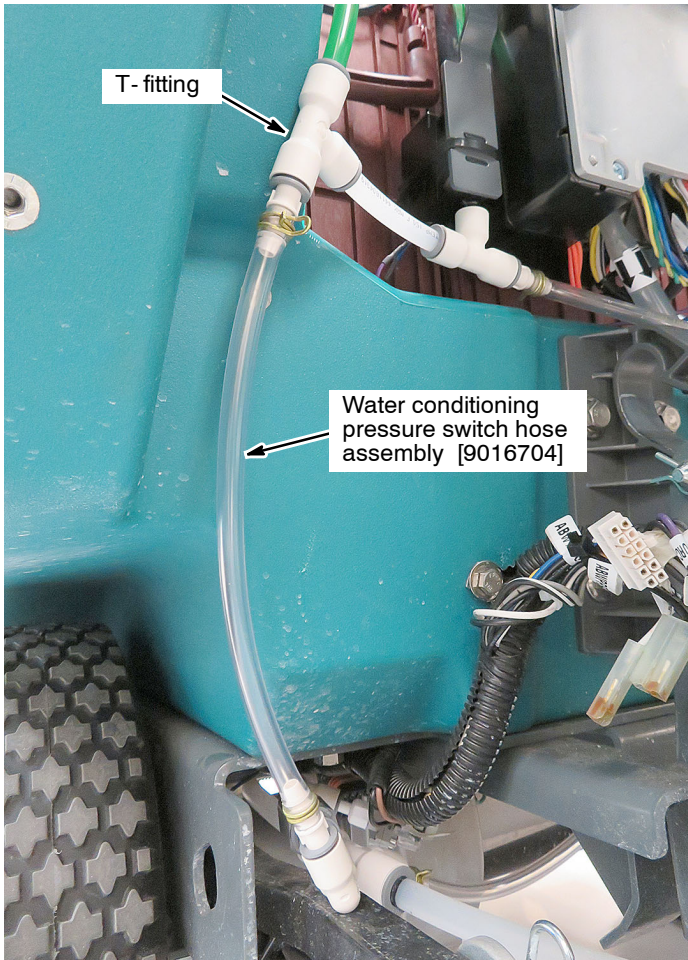

Fig. 19
18. Connect the water conditioning pressure switch hose assembly to T-fitting as shown (Figure 19).